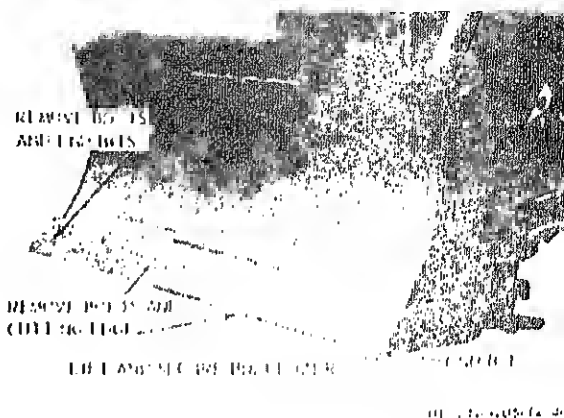

Figure 4-1. Bulldozer cutting edge and end bits, removal and installation.
a. Removal. Remove bulldozer end bits as illustrated in figure 4-1.
(1) Clean all parts and dry thoroughly.
(2) Inspect for wear, cracks, breaks and other damage. Replace defective parts as necessary.
c. Installation. Install bulldozer end bits as illustrated in figure 4-1.
a. Removal. Remove bulldozer cutting edge as illustrated in figure 4-1.
c. Installation. Install bulldozer cutting edge illustrated in figure 4-1.